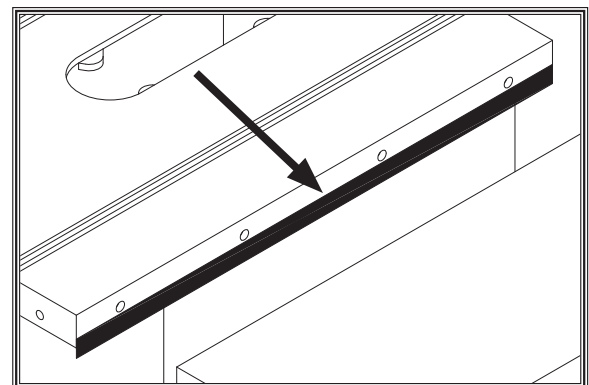

Figure 15. Masking tape location for shimming the wing up.
- If the outside end of the extension wing tilts down, place one or more strips of masking tape along the bottom edge of the main table to shim the end of the extension wing up (see **Figure 15**).